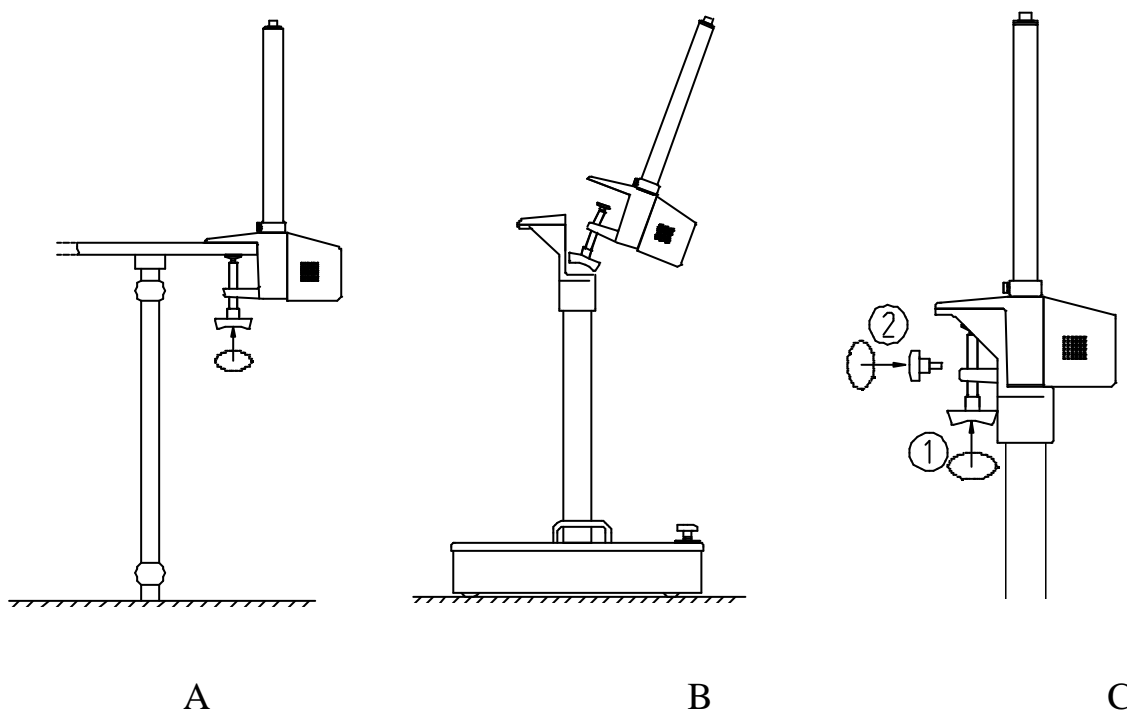

Figure 3 Attaching the clamp to a mounting surface
2. Fix the clamp to the operating table about 40 cm from the head of the table. The clamp may be fixed on either side of the table. Make sure that the clamp is pressed firmly against the side of the table before tightening. Refer to figure 3 (A).
M The clamp may also be attached to the floor stand. When attaching to the floor stand, first remove the two knobs from the clamp then tilt the clamp backwards slightly to allow it to fit through the hole in the clamp mount. Refer to figure 3 (B).
M The floor stand is clamped vertically to the main clamp assembly at one point and at two points horizontally. First tighten the vertical clamp firmly then use the two knobs provided to fix the clamp horizontally to the clamp mount. Refer to figure 3 (C).